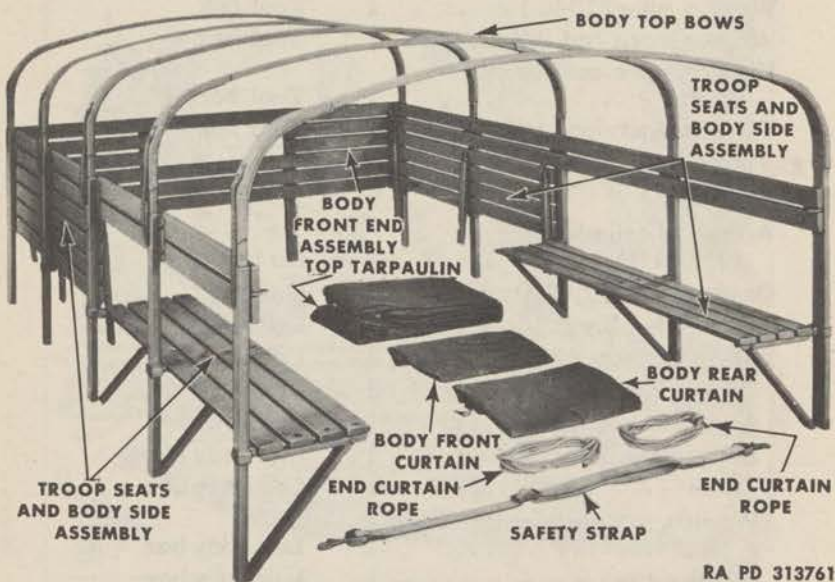

Figure 43—Equipment Supplied with Ponton Trucks Only
e. In addition, the following materiel is supplied with Diamond T 4-ton, 6 x 6 ponton trucks only (fig. 43):